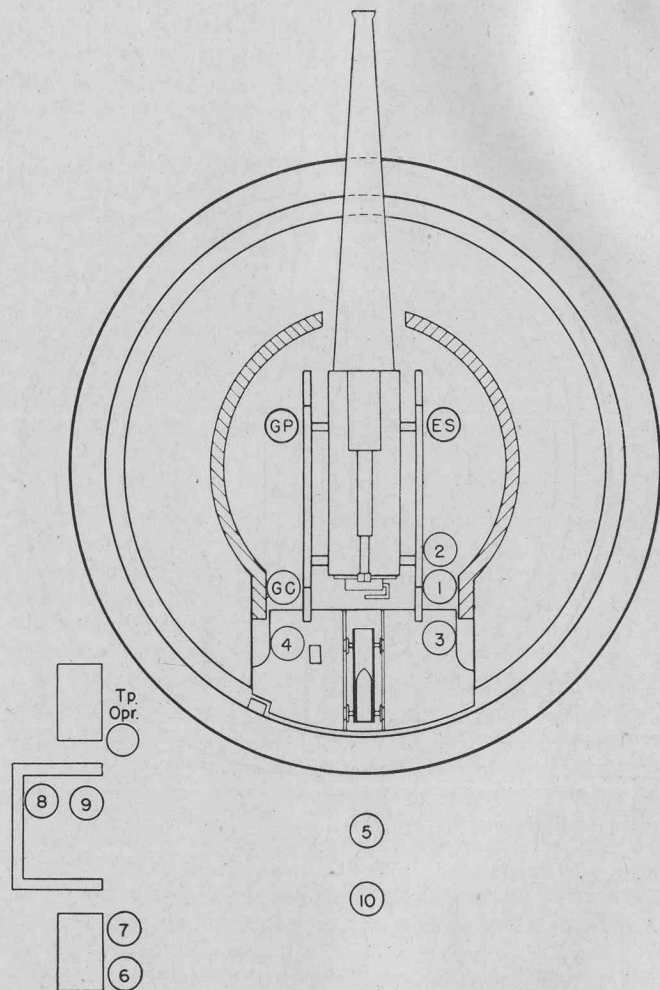

Figure 2. Position of gun squad at the command details, posts (M1 and M2 carriages).
(1) Training and efficiency of the personnel in his section.
(2) Condition of the materiel under his charge.
(3) Preparation of the piece for firing, and for camouflage and gas discipline of his section.
(4) Firing of the piece.
(5) Observance of all safety precautions pertaining to the service of the piece.
(6) Police of the emplacement.
b. Twice daily, at the direction of the battery executive or the assistant battery executive, he forms his gun section at the emplacement and commands: DETAILS, POSTS. Servicing equipment is kept convenient to the individual posts, and it is necessary only for the members of the gun section to verify the presence of items and place them for use. After all details have reached their posts (fig. 2 or 3), he commands: EXAMINE GUN. He then makes an inspection of the gun, carriage, and other materiel, paying particular attention to the traversing and elevating mechanisms, recoil cylinder, breech and firing mechanisms, safety devices, and the oiling of the various bearings. He receives the reports of the chief of ammunition and the various details of the gun squad. He reports to the officer in charge of the emplacement, "Sir, No. in order," or reports defects which he is unable to remedy without delay.